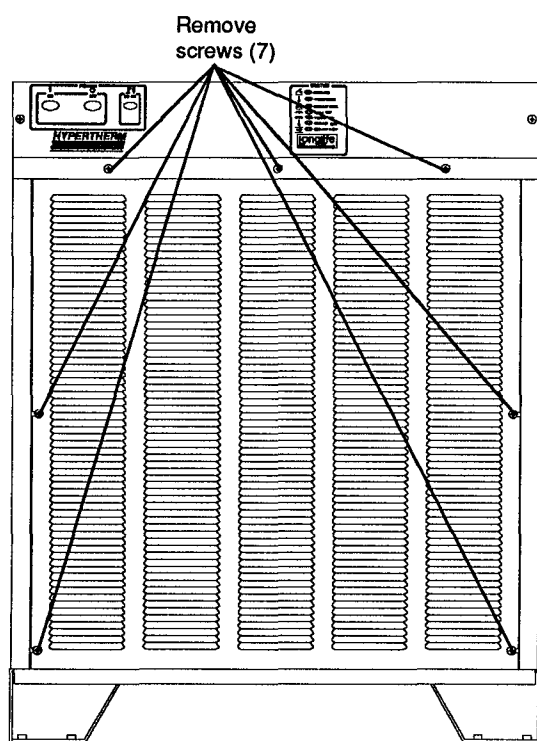

Figure 1 HT2000 Front Panel Removal
2. Remove the 7 screws that secure the power supply front panel to the power supply - see Fig. 1 or 2. Save the screws.